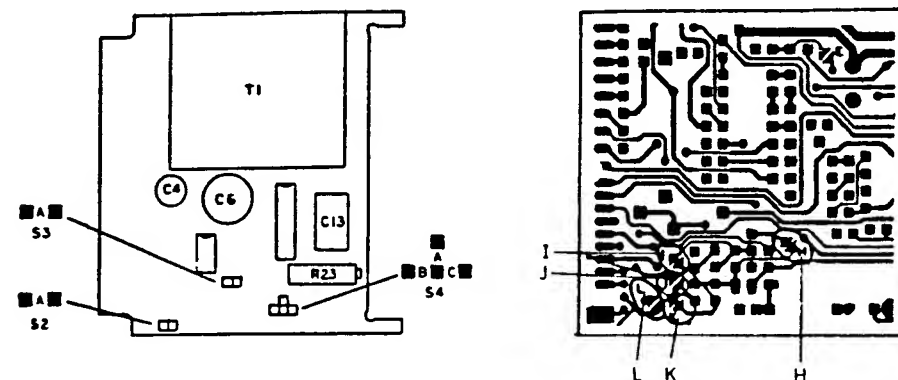

Figure 6 Main Board Switches
- Locate the Span (S) potentiometer (R23) in figure 6.